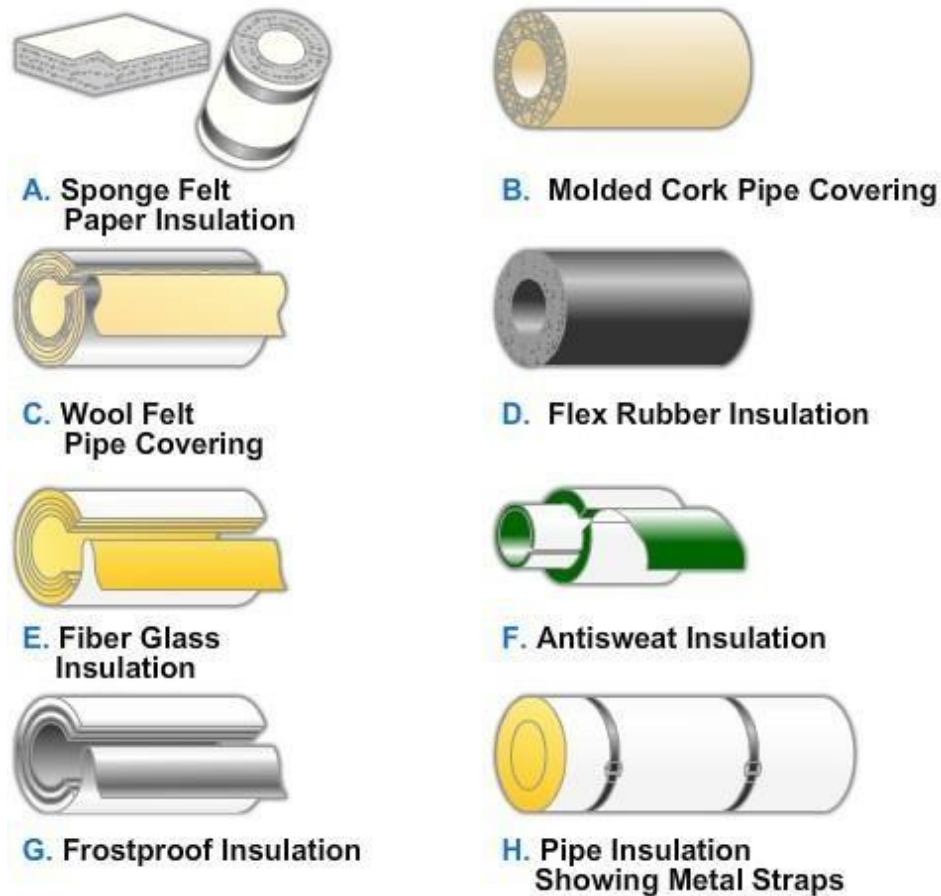

Figure 5-39 — Types of pipe insulation.
Sponge felt paper is composed of asbestos paper with a maximum amount of sponge evenly distributed within it, as shown in *Figure 5-39, View A*. Sponge felt paper is manufactured to fit most pipe sizes. It comes in 3-foot lengths and from 1 to 3 inches in thickness.
Cork pipe covering is a granulated material processed from the bark of cork trees. Granulated cork is compressed and molded to size and shape and finished with a coating of plastic asphalt. Cork pipe covering, as shown in *Figure 5-39, View B*, is an ideal covering for brine, ammonia, ice water, and all kinds of cold waterlines, and it insulates well over a wide low-temperature range. Cork pipe covering does not rot or support combustion. Clean, sanitary, and odor free, it is available in a wide variety of sizes and shapes to fit various sizes of pipes and fittings.
Wool felt is made of matted fibers of wool, wool and fur, or hair, worked into a compacted material by pressure rolling. It is used on cold-water service and hot-water return lines. Wool felt preformed pipe covering is manufactured in thicknesses of 1/2 to 1 inch, with a canvas jacket, as shown in *Figure 5-39, View C*. It is manufactured in 3-foot lengths for straight runs of pipe.
Flex rubber insulation, shown in *Figure 5-39, View D*, is a tough, flexible rubber material constructed of millions of uniform closed cells. It has good insulating
Fiberglass pipe insulation, shown in *Figure 5-39, View E*, is composed of very fine glass fibers, bound and formed together by an inactive resin type of mixture. It is formed into a flexible hollow cylinder and slit along its length for applying to pipes or tubing. It is furnished in 3-foot lengths with or without jackets. The insulation comes in thicknesses from 1/2 to 2 inches and fits pipes from 1/2 to 30 inches. Fiberglass insulation has a long life; it will not shrink, swell, rot, or burn. It is easily applied and light in weight, saves space, and has excellent insulating qualities.
Antisweat insulation, shown in *Figure 5-39, View F*, is designed for cold-water pipes. It keeps the water colder in the pipes than most types of insulation; and when installed properly, it prevents condensation, or sweating, of the pipes.
Frost-proof insulation, shown in *Figure 5-39, View G*, is manufactured for use on (1) cold-water service lines that pass through unheated areas, and (2) those lines exposed to outside weather conditions.
After you have applied the cheesecloth and smoothed it out, install metal straps to hold the insulation firmly in place, as shown in *Figure 5-39, View H*.